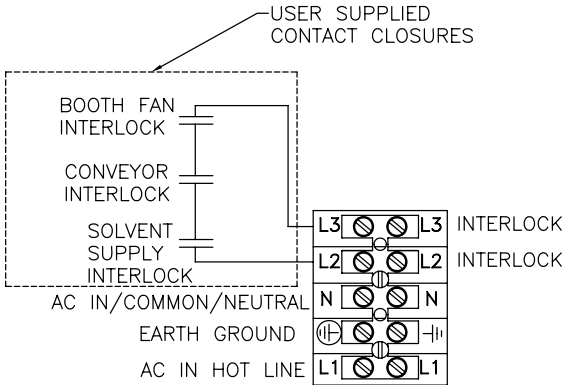

Figure 9a: Interlock Schematic
4. Using a shielded cable for the interlock wiring (supplied by user), route through the interlock connector on the rear of the control unit and terminate to TB1-L2 and TB1-L3 as shown in Figure 9a. The shielded cable must have a minimum rating of 300V and 105°C and its conductors should be 0.8mm² (18 AWG) minimum. Secure the cable to the interlock connector as described in the "I/O Connectors" in the "Installation" section, so that the shield of the cable is connected to the chassis of the enclosure.